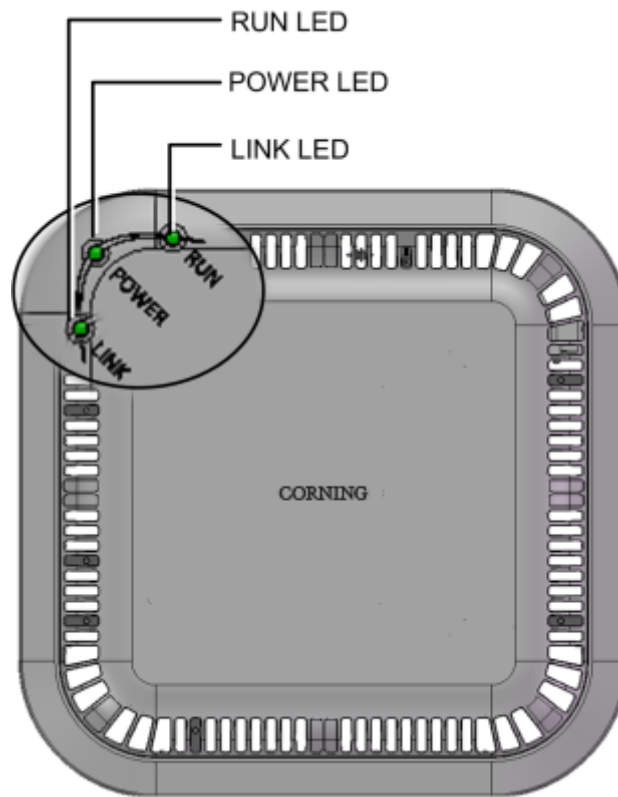

Figure 6-18. RAU Enclosure LEDS
4. Verify that RAU LEDs on, on front cover (see Figure 6-18) indicate normal operation status: